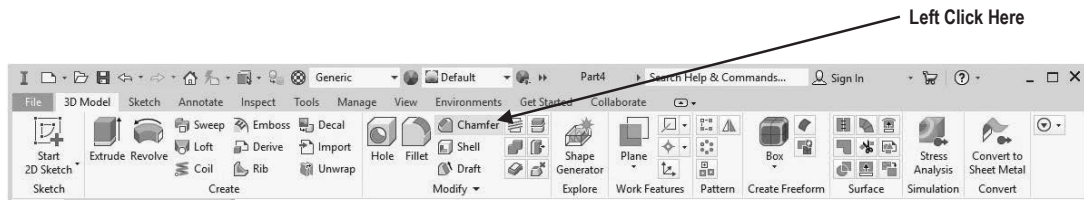

Figure 2
4. Move the cursor to the right portion of the screen and left click on the 3D Model tab. Left click on the **Chamfer** icon as shown in Figure 2.